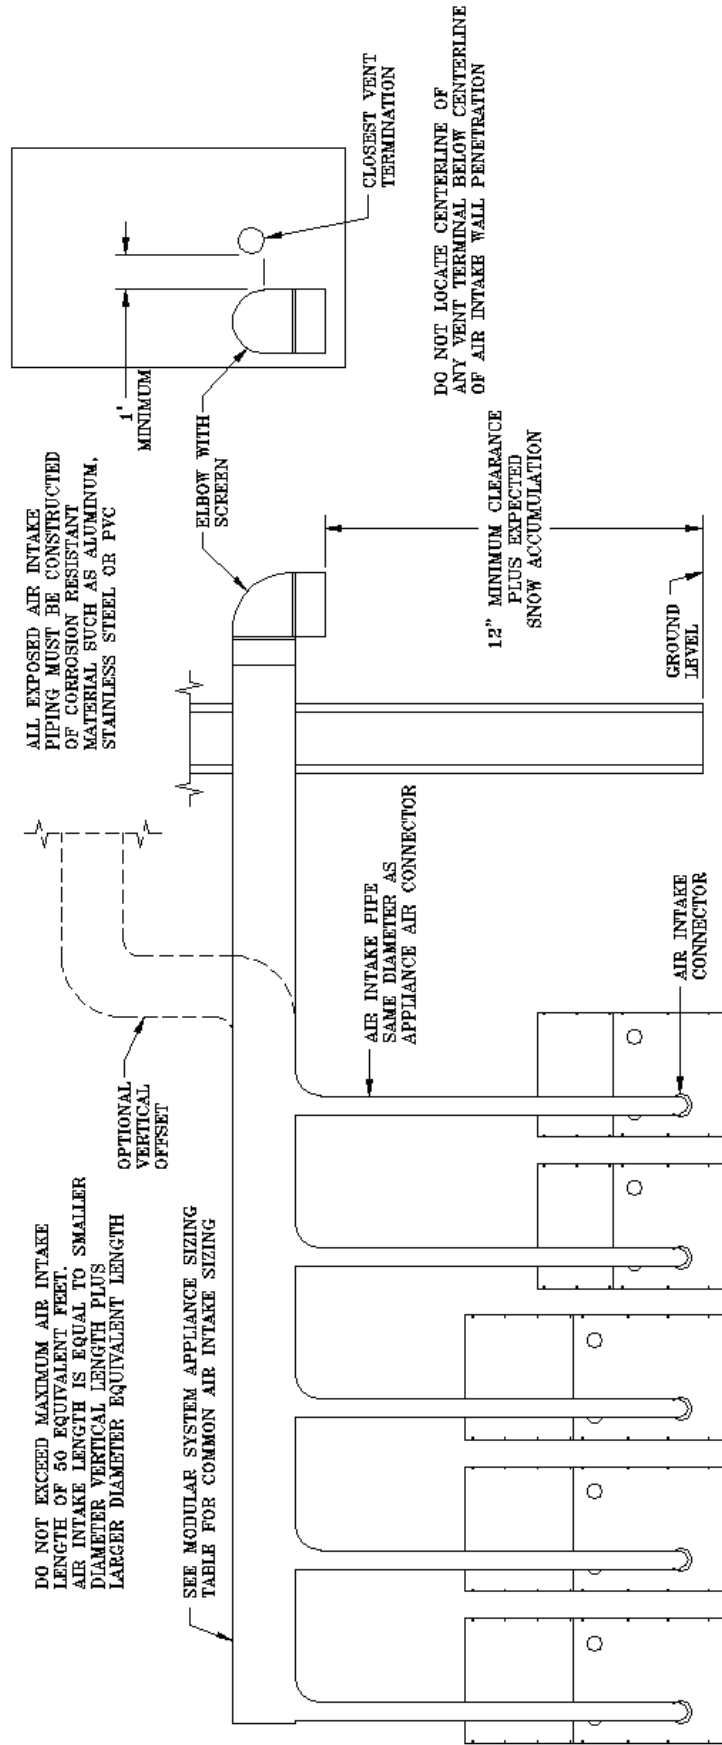

Figure 11: Modular System Horizontal Air Intake Piping
- b. Refer to Figures 11 and 12 for common air intake guidelines for modular boilers.
- d. The maximum air intake length is fifty (50) equivalent feet. Common air intake straight lengths and fittings should be assumed to have the equivalent length the same as an individual air intake pipe, used for a given boiler intake pipe diameter. (Note: Consult factory for lengths in excess of 50 feet)